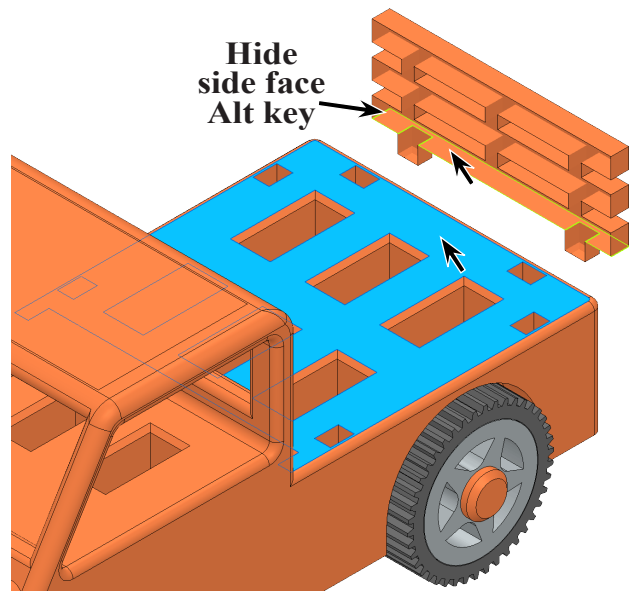

Fig. 18
Step 4. Click **top face of Truck bed** and **hide side face of Rail**, click **bottom face of Rail** (not stake), **Fig. 18**. To hide face, hover cursor over face and press **Alt** key.